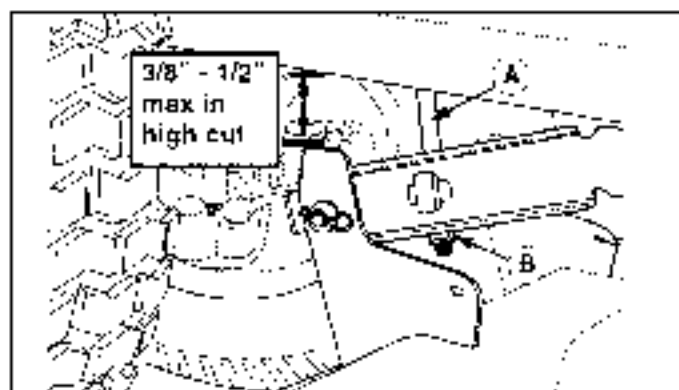

Figure 26. Leveling the Mower Side-to-Side
5. Turn the locknut (B, Figure 26) to raise or lower that side of the mower.
NOTE: The maximum the mower can be adjusted in high cut is 3/8" to 1/2" between the trans and mower up-stop (see Figure 26).